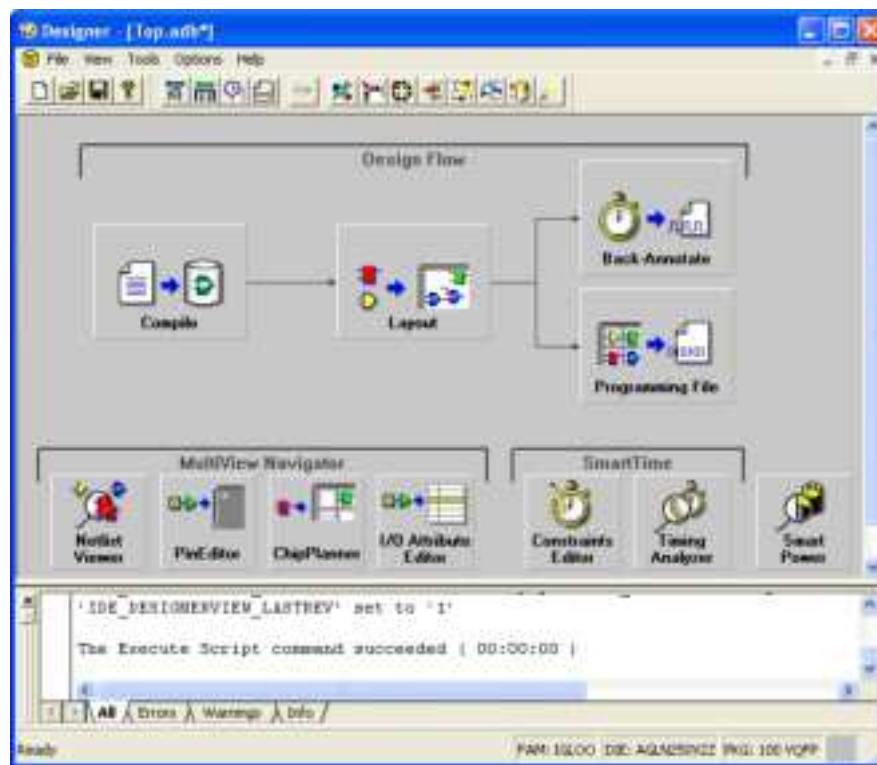

Figure 1-32 • Designer GUI
6. Click the **Compile** button in the Designer GUI to compile the design (Figure 1-32). Compile contains a variety of functions that perform legality checking and basic netlist optimization. It also calculates and displays the utilization of the design for the selected device.